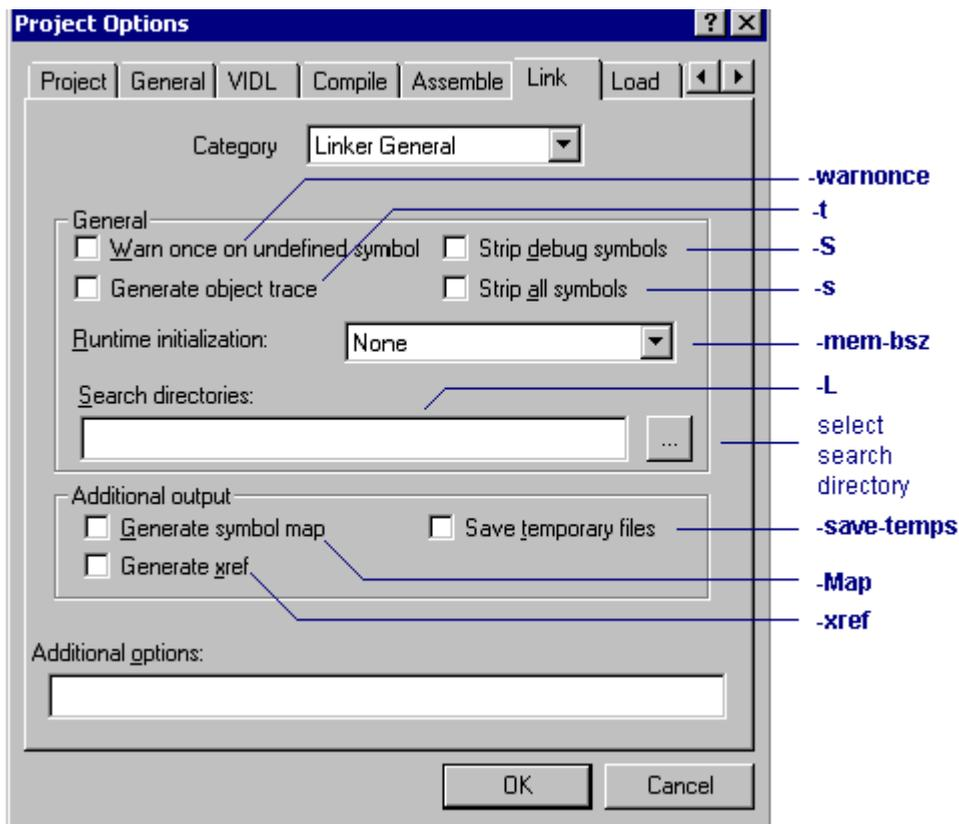
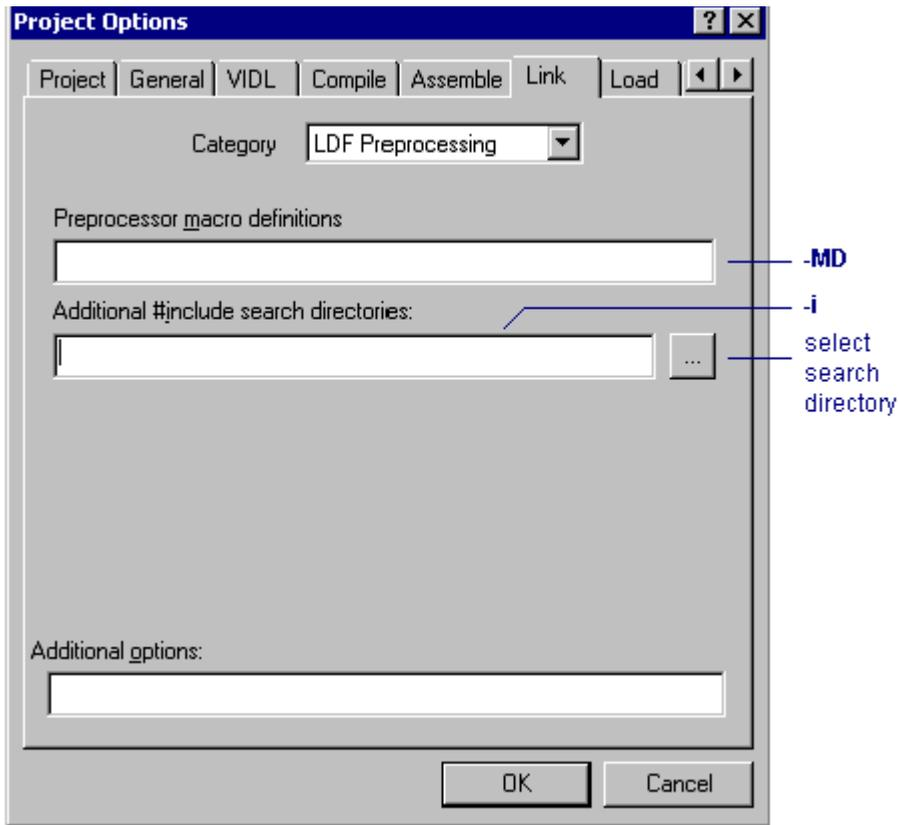
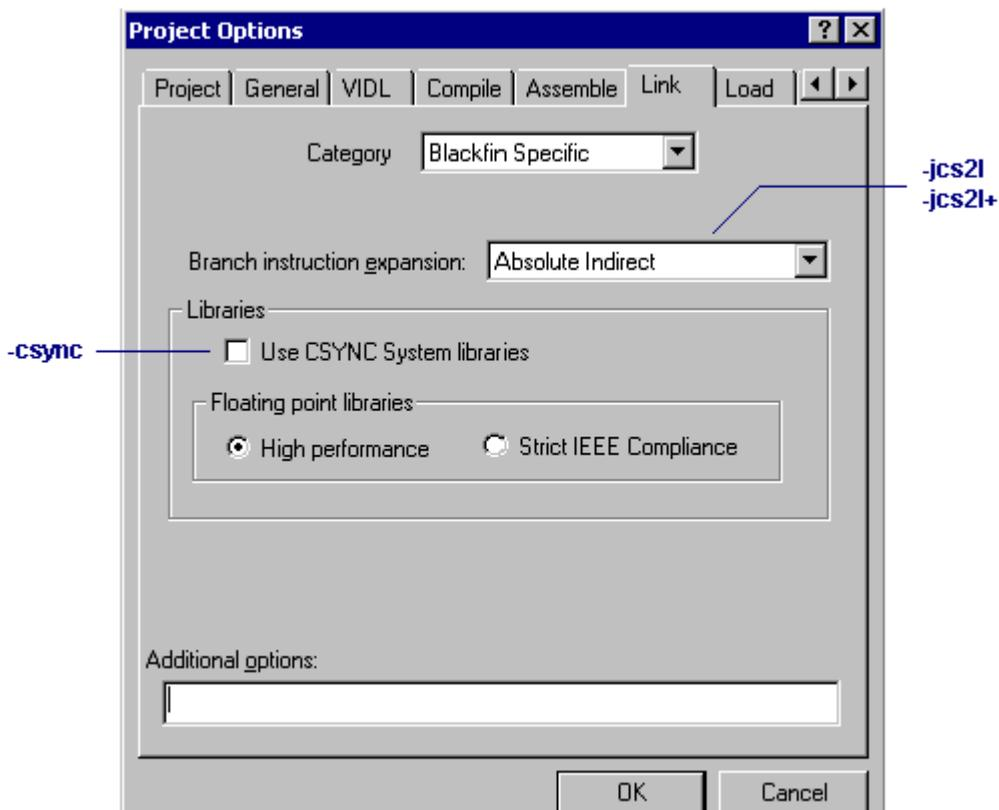

Figure 1-8. Link Page (1 or 3) of the Project Options Dialog Box
Figure 1-9. Link Page (2 of 3) of the Project Options Dialog Box
Figure 1-10. Link Page (3 of 3) of the Project Options Dialog Box
- Settings (options) on the **Link** page of the **Project Options** dialog box (see Figure 1-8 on page 1-17)
The callouts in Figure 1-8, Figure 1-9, and Figure 1-10 refer to corresponding linker command-line switches. In addition to selecting options on the **Link** page, use the page's **Additional options** field to specify switches and parameters that do not have corresponding **Link** page controls. Refer to “Linker Command Syntax” on page 1-33 for more information.